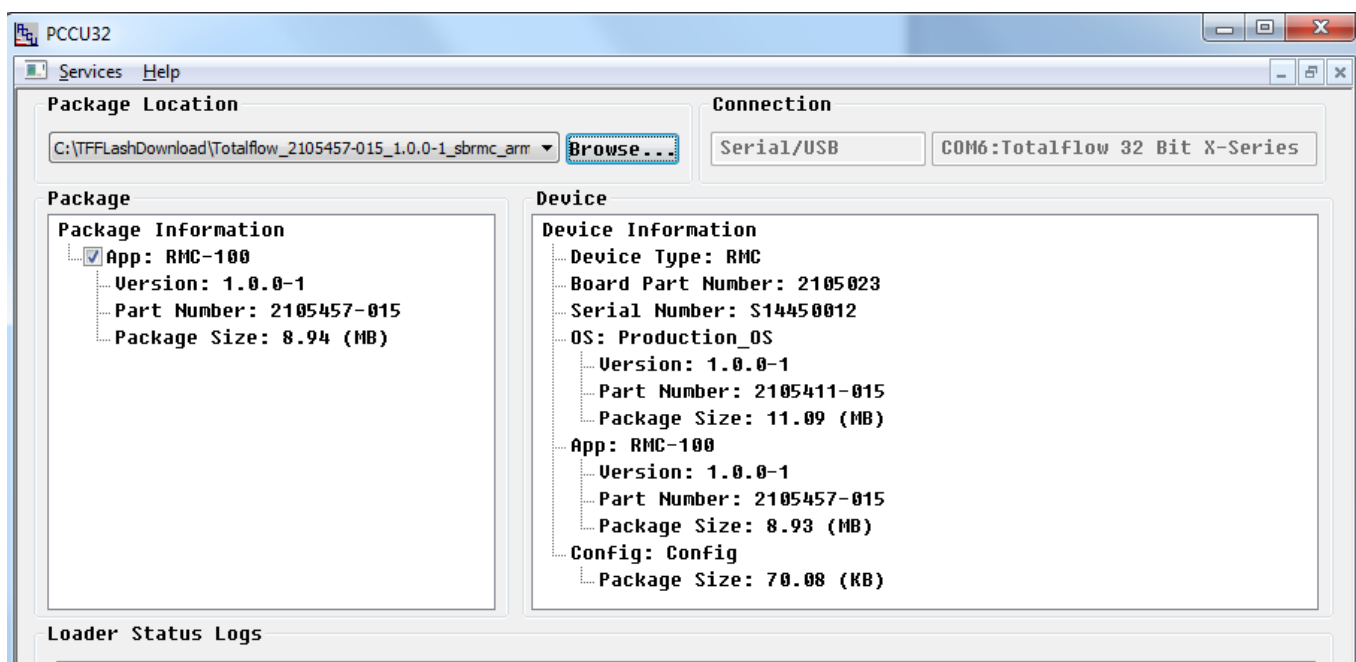

Figure 79: Update software with loader
7. Locate and select the update file package and click **Open**. The selected package details display in the Package field (Figure 79).